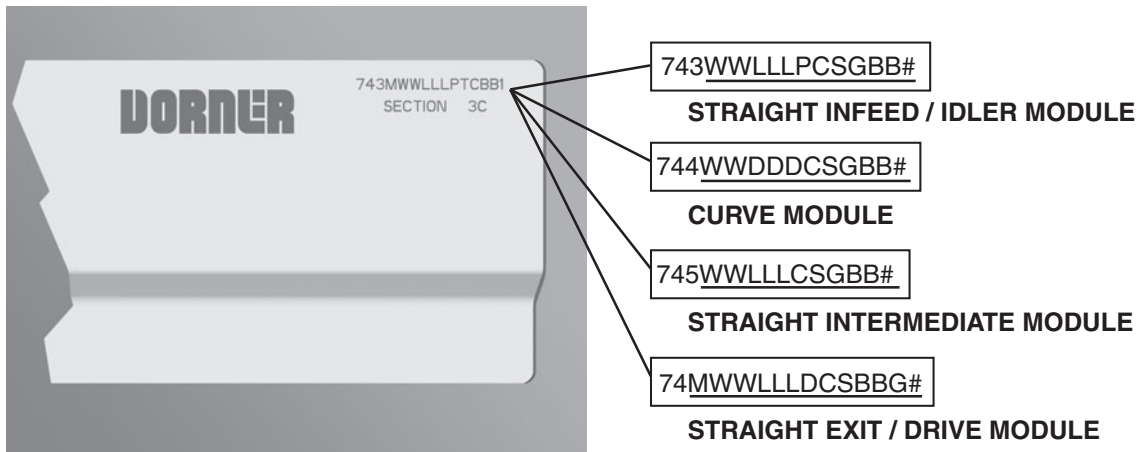

Figure 90
Refer to your serial and model number plate (**Figure 90**). From the model number, determine conveyor width (WVW), length (LLL), pulley type (P), stand location, cleaning options (C), stand holes (S), guide profile (G), belt material (BB), degree of turn (DDD), drive/pulley type (D) and module serialized sequence (#).